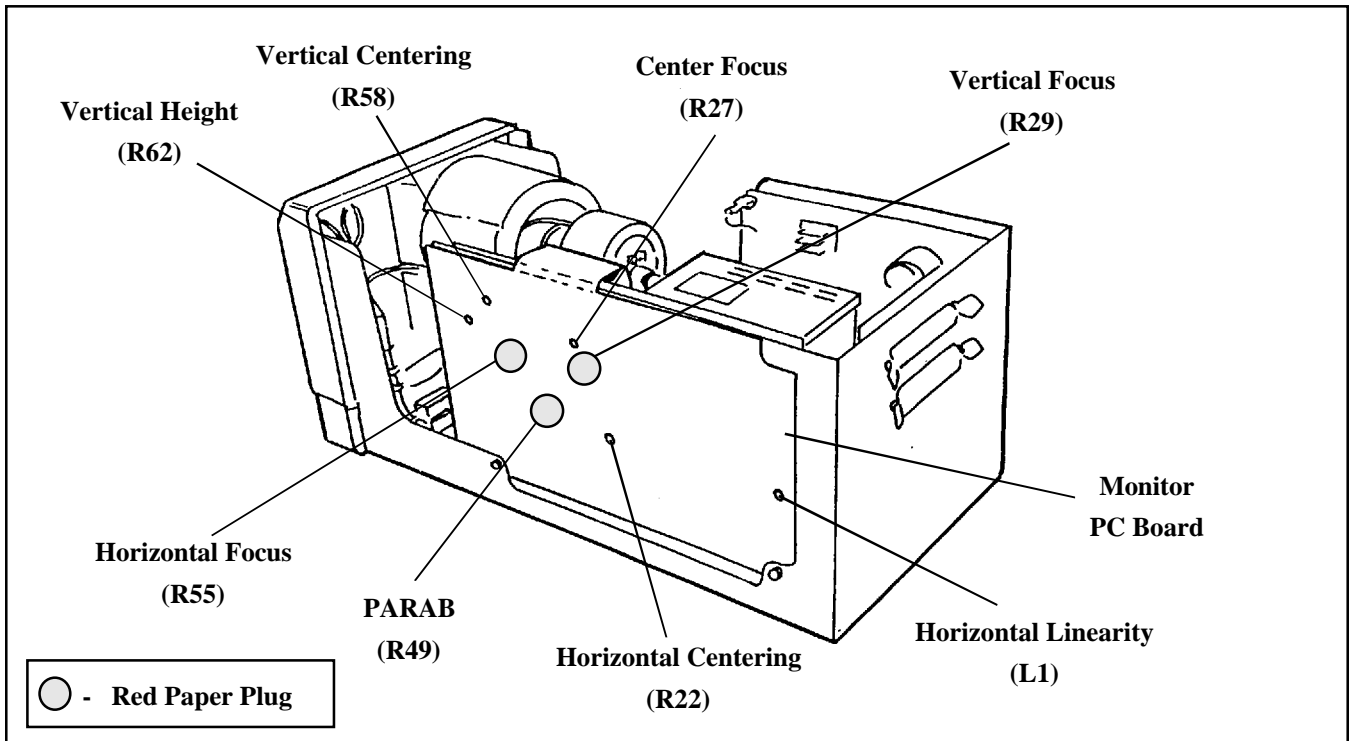
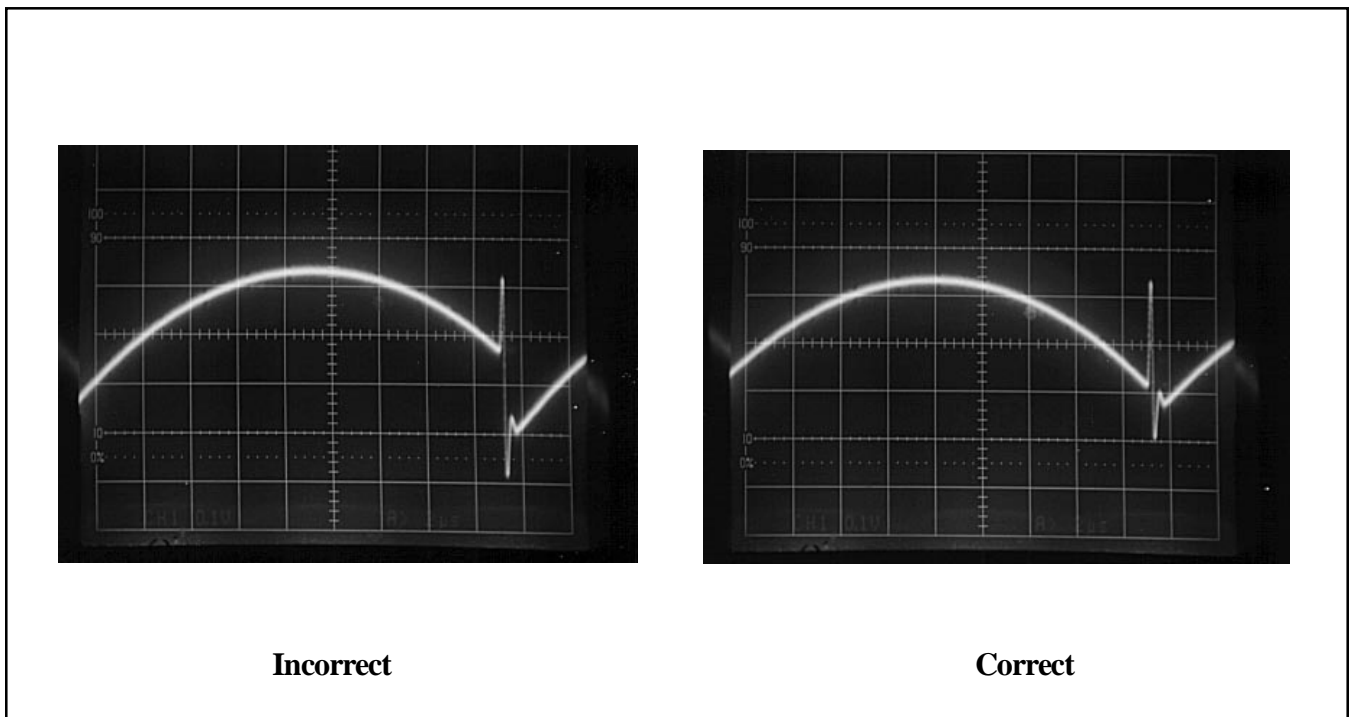

Figure A-3. Monitor PC Board Adjustment Location
Figure A-4. PARAB Signal
5. Using a plastic adjustment tool, adjust **PARAB** potentiometer **R49** (Figure A-3) until the signal is just left of center (Figure A-4).
3. Using a plastic adjustment tool, turn the horizontal focus potentiometer (**R55**) completely clockwise (CW) (Figure A-3).